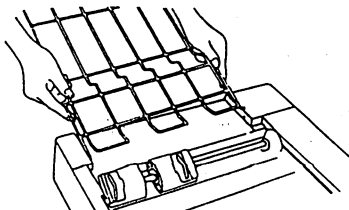

Figure 2B. Wire Paper Holder
7. Insert the wire paper holder in the two holes in the rear of the cabinet as shown in figure 2B.